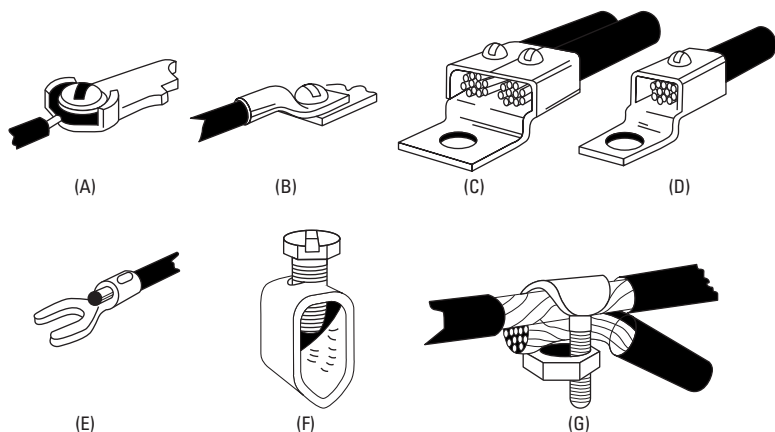

Figure 110-1 Various types of approved pressure connectors.
(A) Terminals. Connections to terminals must ensure a good electrical and mechanical contact without injury to the conductors; connection must be by approved pressure connectors, solder lugs, or splices to flexible wires. The exception to the regulation is that No. 10 or smaller stranded conductors can be connected by means of clamps or screws with terminal plates having upturned lugs (Figure 110-1). Terminals for more than one conductor must be of the approved type for this purpose. When permitted to place a wire under a terminal screw, wrap it in such a direction that when you tighten the screw, the wire will not be squeezed out from under the head of the screw. On the smaller sizes of conductors, especially cord conductors, it is best to twist the conductor strands and apply some solder to them.